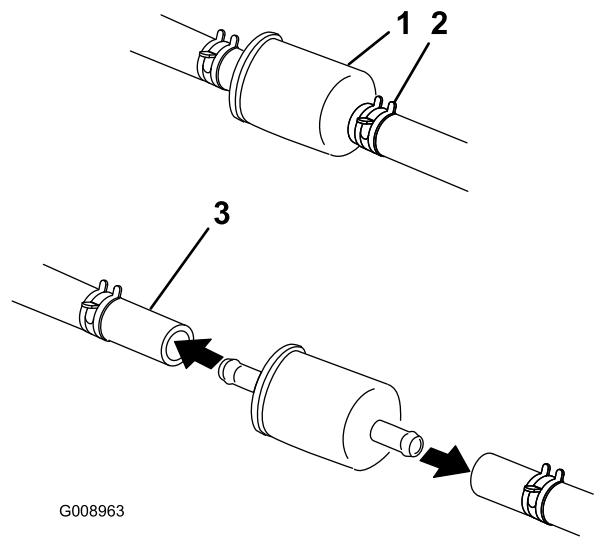

Figure 52
5. Squeeze the ends of the hose clamps together and slide them away from the filter (Figure 52).